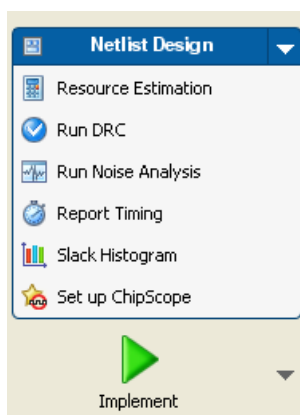

Figure 12-5: Launching the Set up ChipScope Wizard
2. In the Flow Navigator, invoke the **Set Up ChipScope** wizard from the Netlist Design menu, or click **Tools > Set Up ChipScope**. Figure 12-5 shows where to launch the wizard.